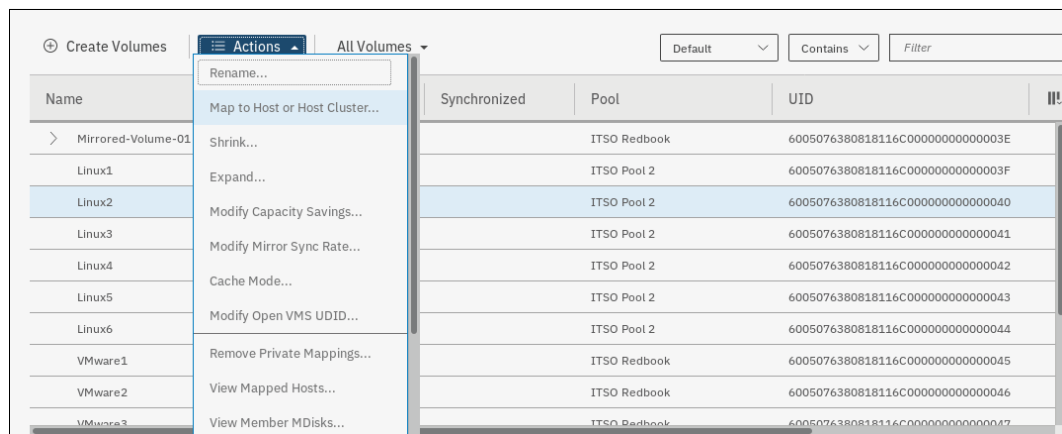

Figure 6-37 Map to host or host cluster
1. Right-click the volume name to be mapped and select the **Map to Host or Host Cluster** menu option, as shown in Figure 6-37.